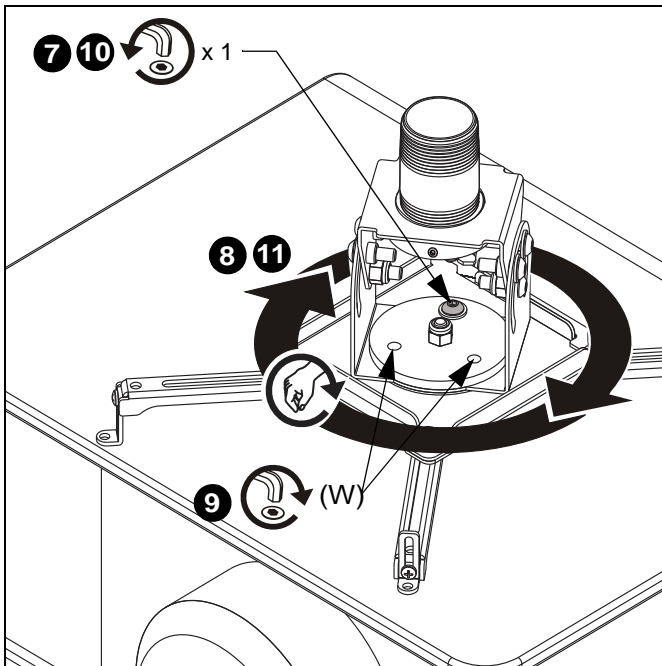

Figure 12
9. Add one 5/16-18 x 1" button head cap screw (W) along with one 5/16" washer (X) into one of the two separate holes in the VPAU base. (See Figure 12)